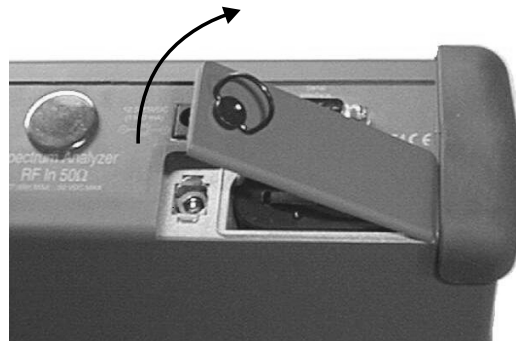

Figure 6. Removing the Battery Access Door
3. Lift the door and remove, as illustrated in Figure 6.